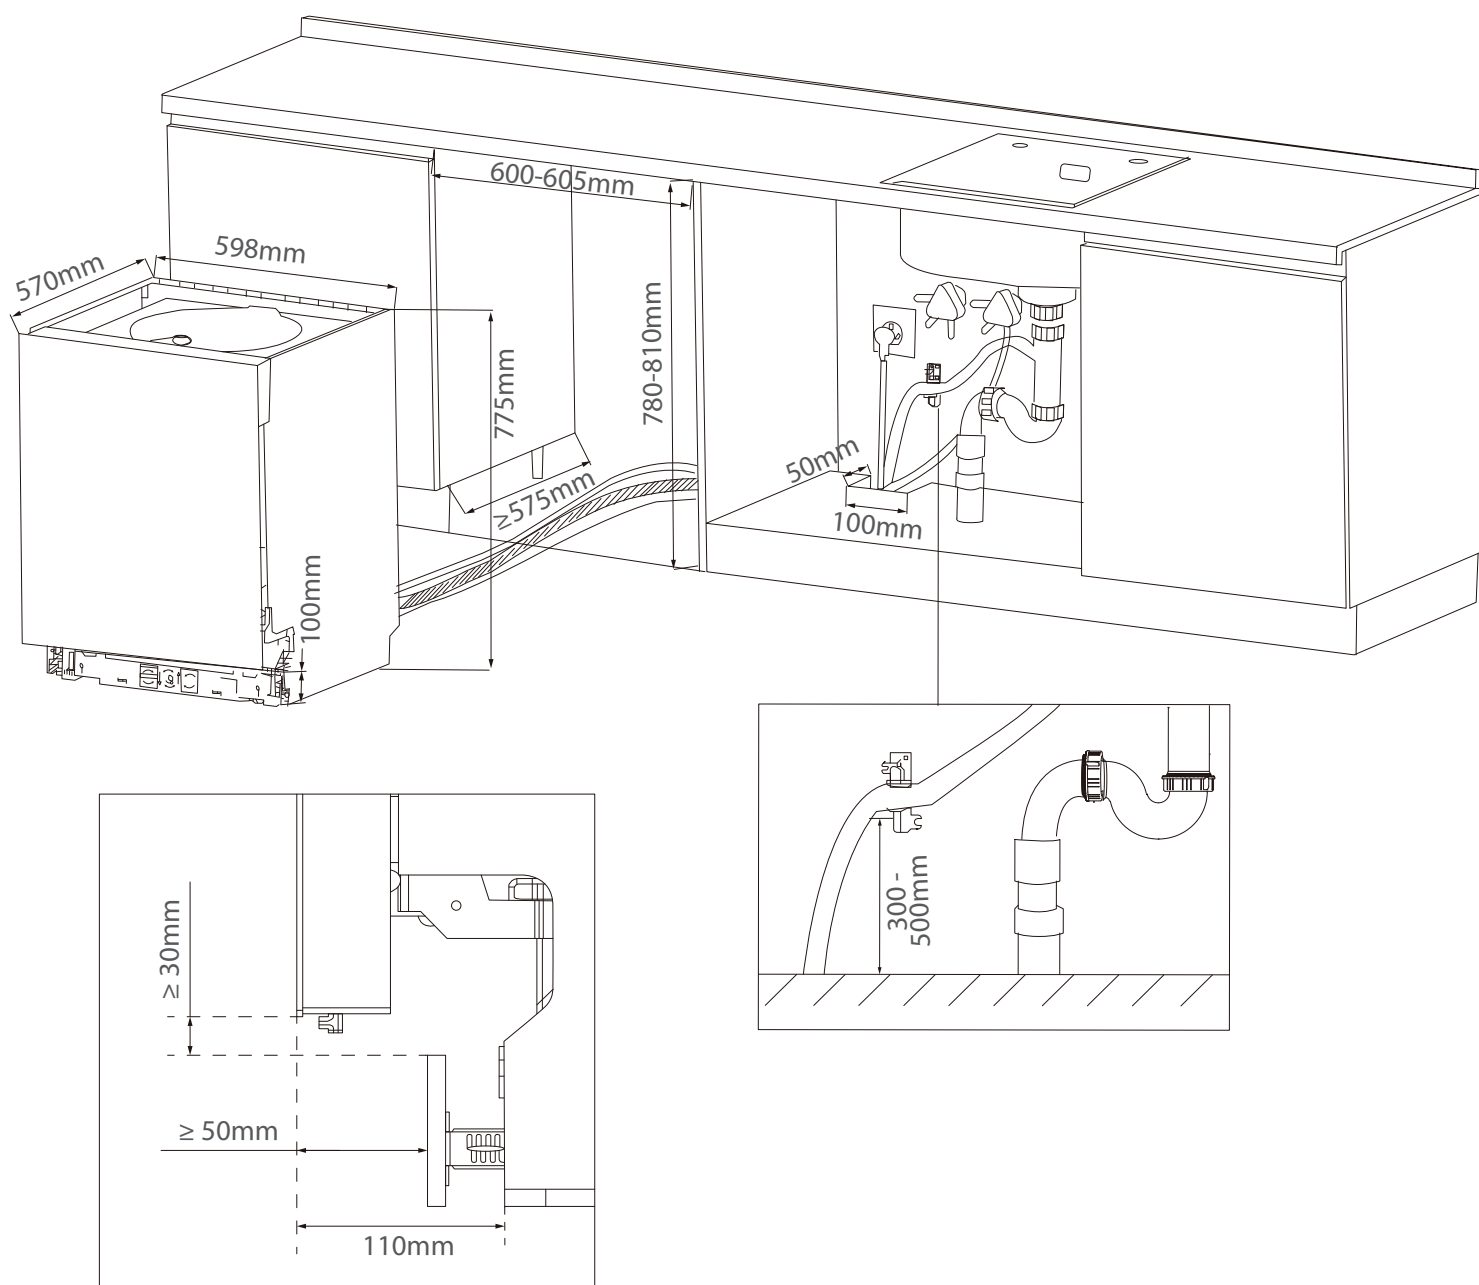

Figure 1.1
7. RECOMMENDED TO PREPARE SKIRTING BOARD, IT MUST BE INSTALLED ACCORDING TO THE FIGURE 1.1